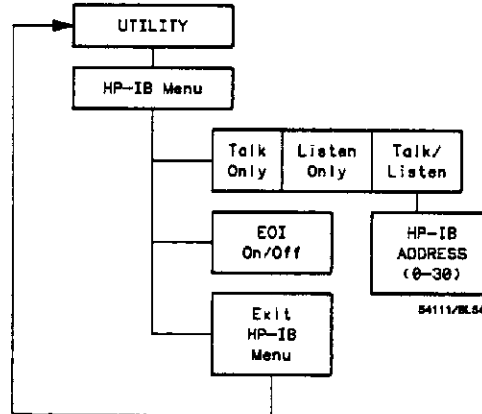

Figure 13-1. HP-IB Menu
- Set the HP54111D to talk only mode (see figure 13-1).